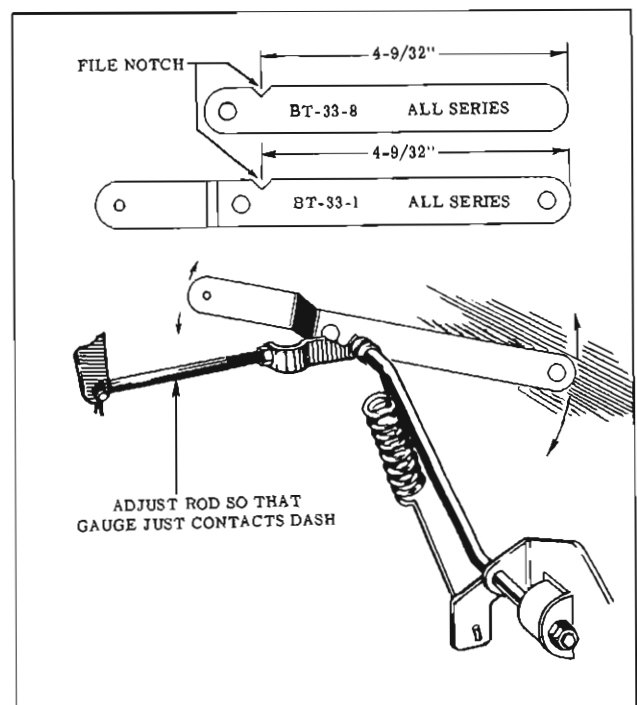

Fig. 6-129 Accelerator Pedal Height Adjustment
- b. Adjust accelerator rod "F" to position accelerator rod to bellcrank bushing "G" so that gauge just touches dash. (Fig. 6-129)